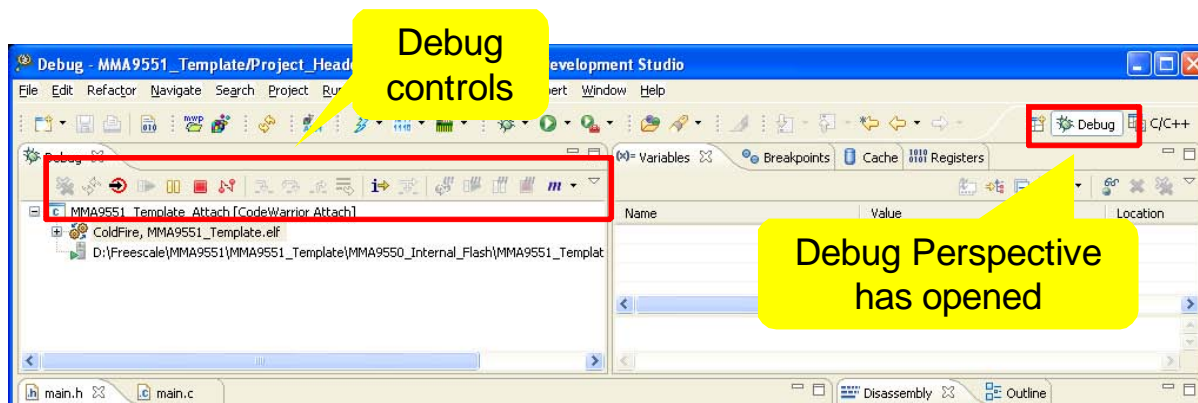

Figure 31. Attach is successful
4. After a successful Attach to the device, the default Debug perspective opens, showing multiple debug windows. The debug controls are outlined in red in Figure 31.